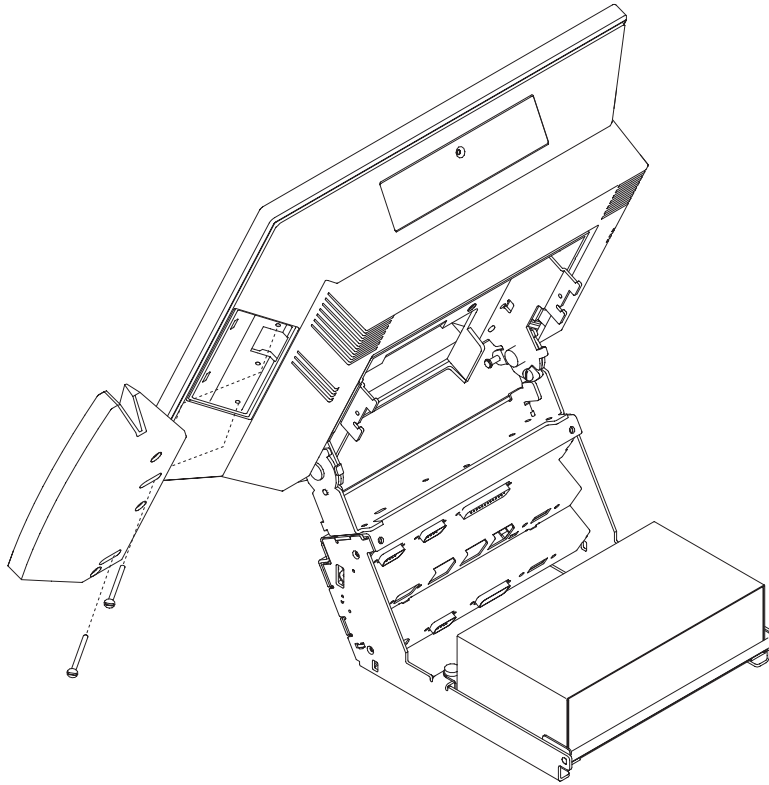

Figure 54. Removing the MSR
2. Remove the two screws that secure the MSR from the back of the right side of the display as shown in Figure 54